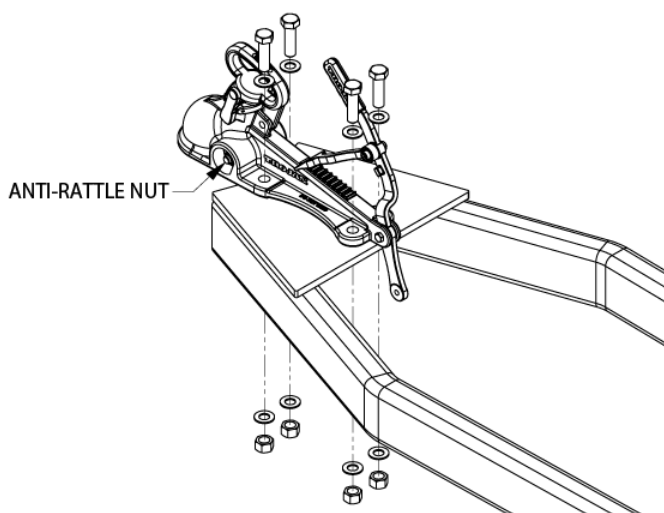

Figure 1: Bolting configuration and location of Anti-Rattle Nut
It is recommended that non-lubricated zinc plated M16 x 2.0P Class 8.8 bolts, M16 flat washers and M16 Class 8 Nyloc nuts torqued to 197Nm (145 ft.lbf) are used to fasten the coupling to the trailer through all four provided mounting holes – Refer Figures 1 and 2 for more detail on bolting requirements. Ensure that bolt length is sufficient for a minimum of two full threads to protrude past the Nyloc nuts when assembled. The coupling must not be welded to the trailer.
2. Adjust the anti-rattle nut until tight, then back off ½ turn – Refer Figure 1